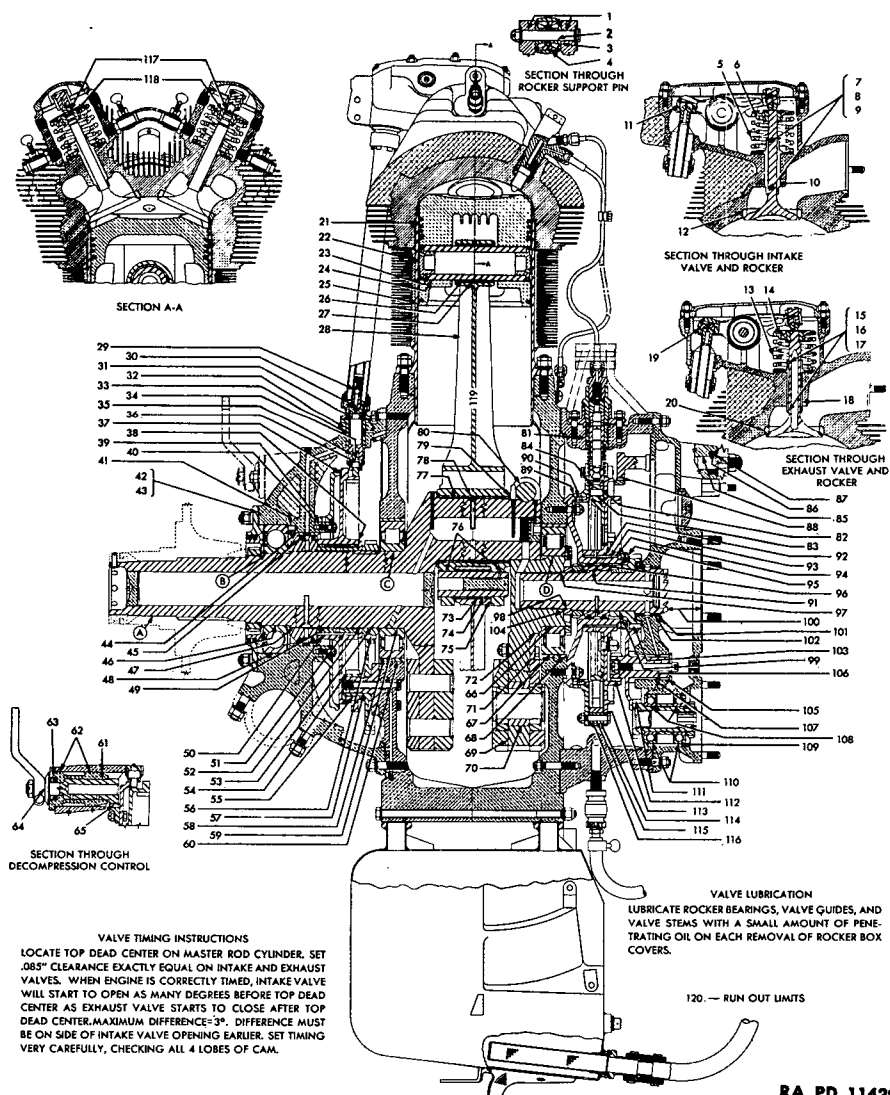

Figure 120—Clearances and Tolerances Chart
The following table gives the minimum and maximum limits for the wearing parts of the engine. The column at the extreme right shows the limit beyond which replacement is necessary. Tight fits with no limits will be replaced when any looseness is found. The numbers in the table refer to the arrows on figure 120.
21. See chart (fig. 120).....*5.762 in. maximum worn inside
28. See chart (fig. 120) Space master rod 0.005 front
29. See chart (fig. 120) Check valve in tappet end only
41. See chart (fig. 120) Install dowel pin so that it is 0.010 in. under
42. See chart (fig. 120) 0.002-0.009 pinch on bearing with
43. See chart (fig. 120) Overhaul note: Lathe cut face of thrust
64. See chart (fig. 120) Set clearance to 0.020 min.-0.040 max.
84. See chart (fig. 120) Set for 0.003 loose
87. See chart (fig. 120) Set clearance to 0.015 min.-0.060 max.